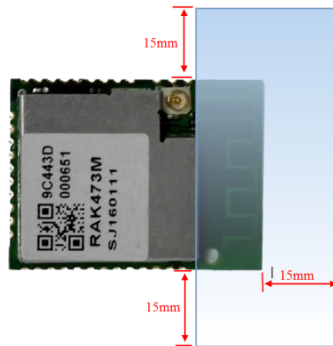

Figure 2-4. Clearance schematic diagram of PCB antenna area
2. If the first method is restricted and cannot be used, please ensure that the module shall not be packed by any metal shell, the PCB antenna area and expanded 15mm areas of the module shall be cleared (copper, routing, and components are strictly prohibited), the schematic diagram is as shown in Figure 2-4.